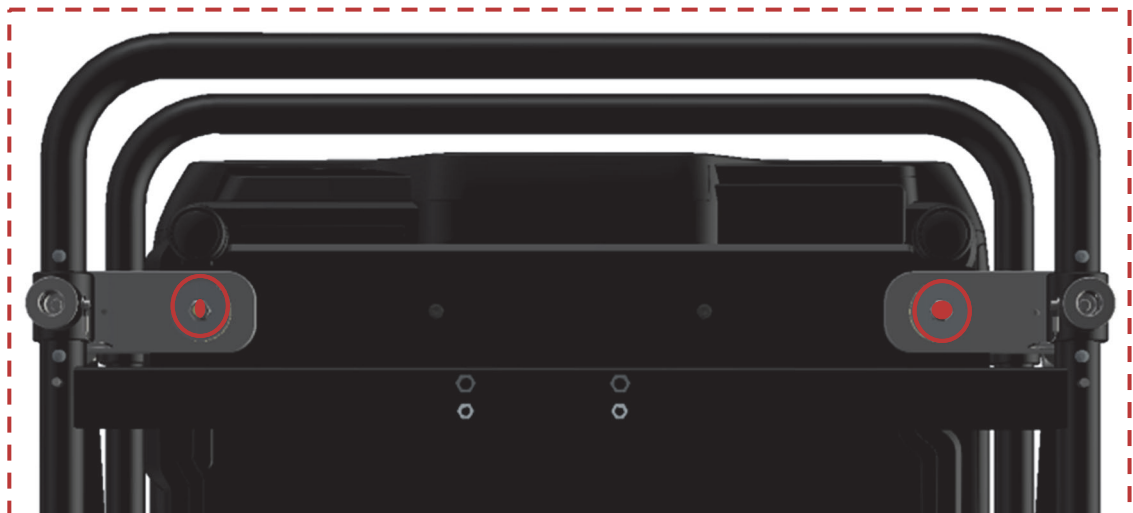

Figure 26 Nuts on front bottom side which are sealed with red colour wax
- On the three screws + nuts presented on the above two pictures (Figure 26 and Figure 27) red color sealing wax was applied to be sure that the nuts will always be on the same position and no one will try to tighten or loose them.
Except for the three nuts described on the previous section (see Figure 26 and Figure 27), please control, with corresponding tool, that all the other screws are properly tightened.